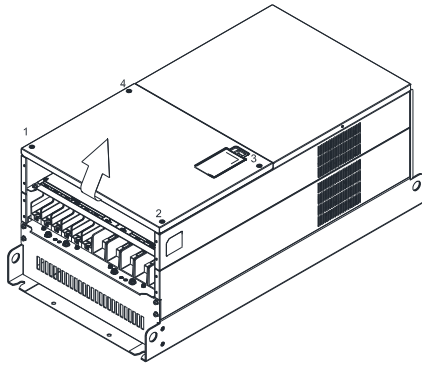

Figure 1
1. Loosen the screw (figure 1) and remove the cover.